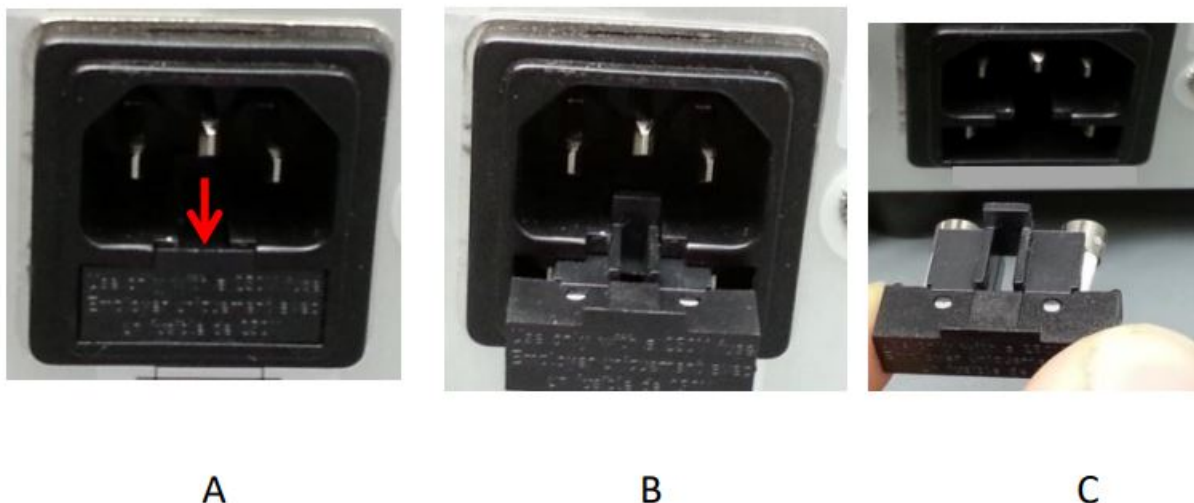

Figure 10 Location and Removal of Fuse Tray in AC Receptacle
- Check both main power fuses. First disconnect the power cord, then carefully remove the fuse tray assembly next to the AC receptacle on the rear of the unit. Note: depending on the orientation of the AC receptacle, the fuse tray may be below or beside it. The red arrow in figure 10 (A) shows where a flat screwdriver can be inserted to gently lever out the fuse tray.